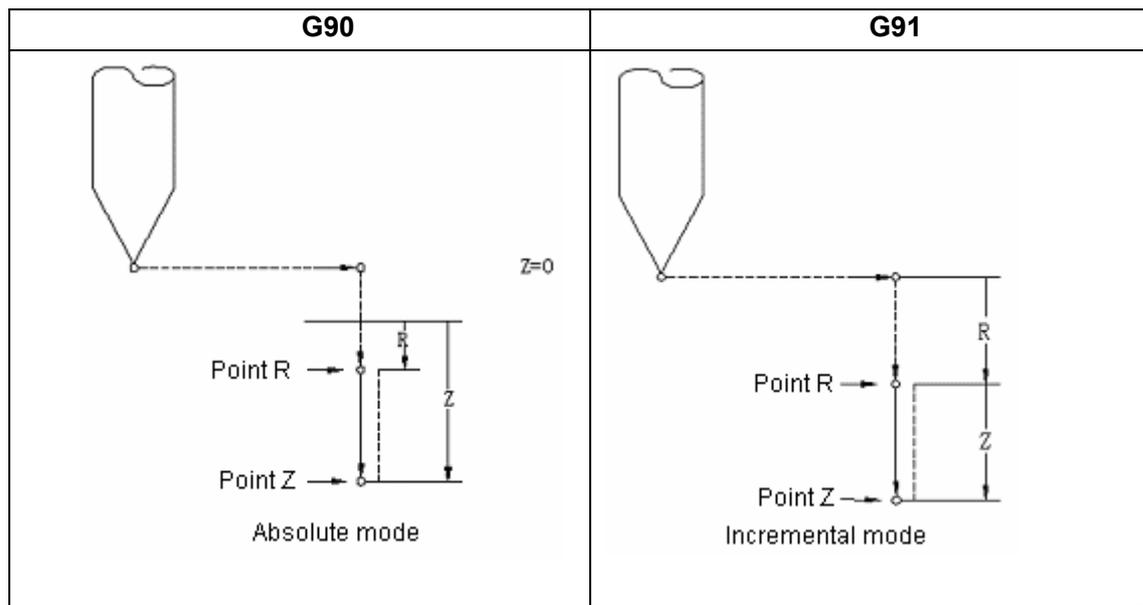

Fig. 7.2.2 Absolute or increment programming
(A) In the Fig.7.2.2, the offered data is determined by the mode of G90 or G91.